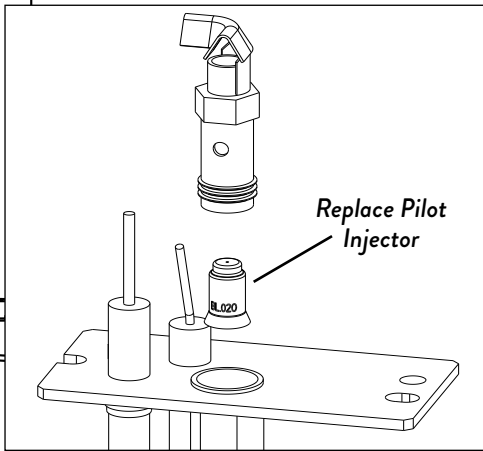

Figure 7.3.
See fig. 7.3. Using a 1/2" open end wrench or deep-well socket, remove the burner injector from the brass elbow and replace it with the injector supplied in the conversion kit.
6. PROPANE ONLY: Install the 1/2" Air Shutter Lock Screw (Fig. 7.3) provided in the LP Conversion Kit. The screw automatically sets the new, minimal shutter opening.
7. Change the Pilot Injector, Fig 7.3.